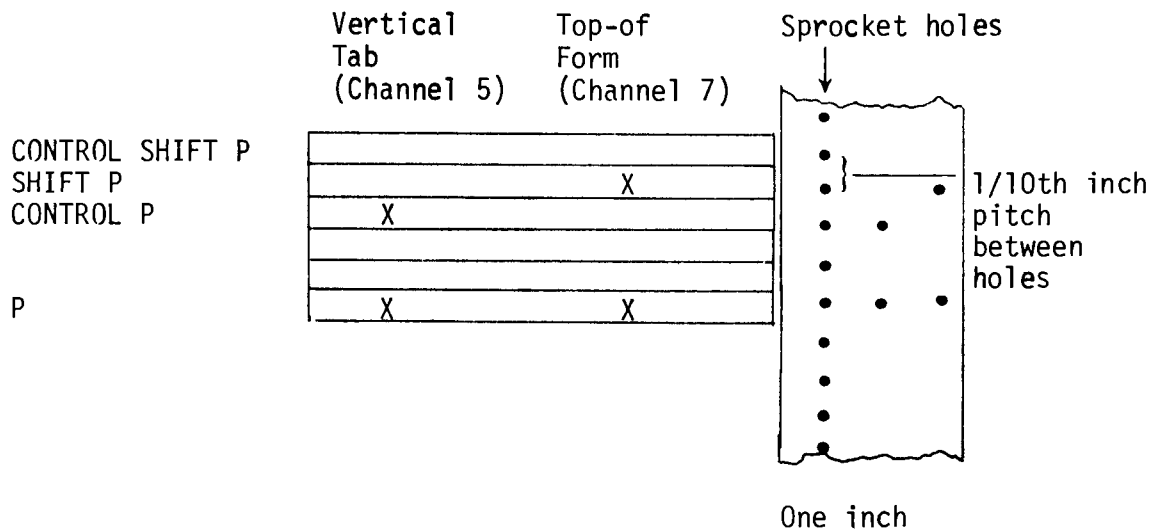

Figure 5.1 Vertical Format Tape
4. For a Vertical Tab hole (in channel 5), press and hold CONTROL key, and then press P. For a Vertical Tab and Top-of-Form holes (in channels 5 and 7), press P key alone. To generate sprocket holes (one space at a time), press and hold CONTROL and SHIFT, and then press P for each hole (see Figure 5.1).